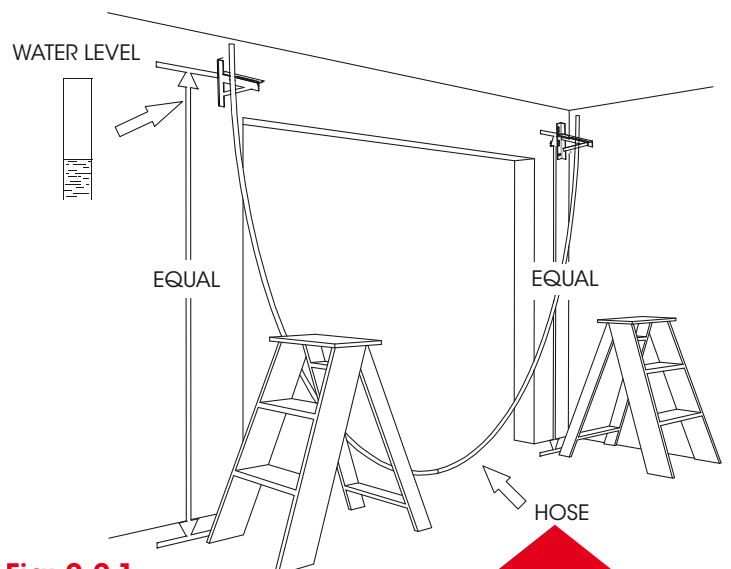

Fig: 2.2.1
- Mark three hole positions using slots of the bracket (B).
- Using a water level mark the position for the second bracket (Fig 2.2.1)